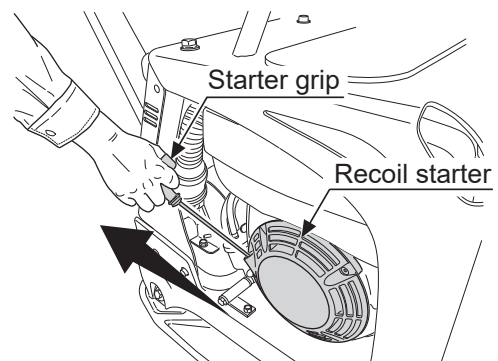

Fig.15
- 2 Hold the recoil starter grip, and pull it a little. You will feel a slight resistance. Then, pull it hard to run the engine. be careful not to pull too hard, or the rope might break or come off. Allow the starter rope to slowly move back into the case while keeping the grip grabbed. (Fig.15)